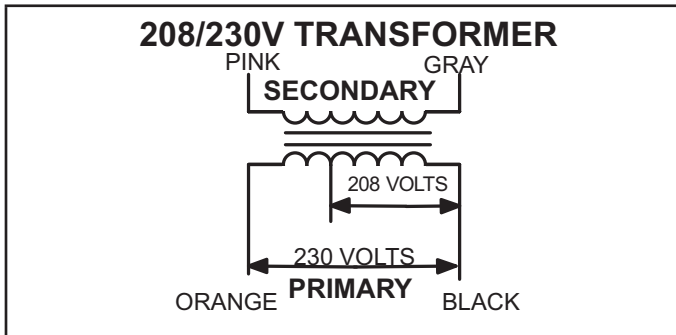

FIGURE 5
All use a single line voltage to 24VAC transformer mounted on the hinged control panel. Transformer supplies power to control circuits in the unit. The transformer T1 is rated at 92VA and is protected by a 6 amp circuit (CB8). The transformer T43 is rated at 70VA and is protected by a 3.5 amp circuit (CB31). The 208/230 voltage transformers use two primary voltage taps as shown in FIGURE 5, while the 460 (G) voltage transformer use a single primary voltage tap. All reheat units, heat pump units and units with phase detection components are equipped with transformer T43 located in the control box.